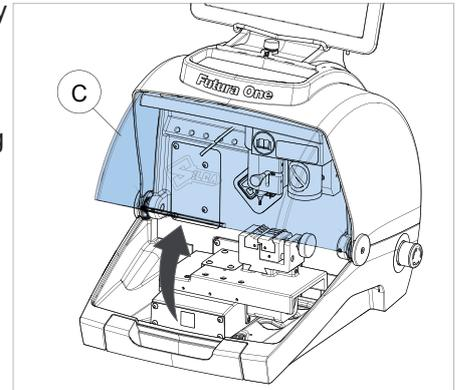

Fig. 7
The shield (C) must be raised in order to lift keys for cutting or carry out other operations (Fig. 7).